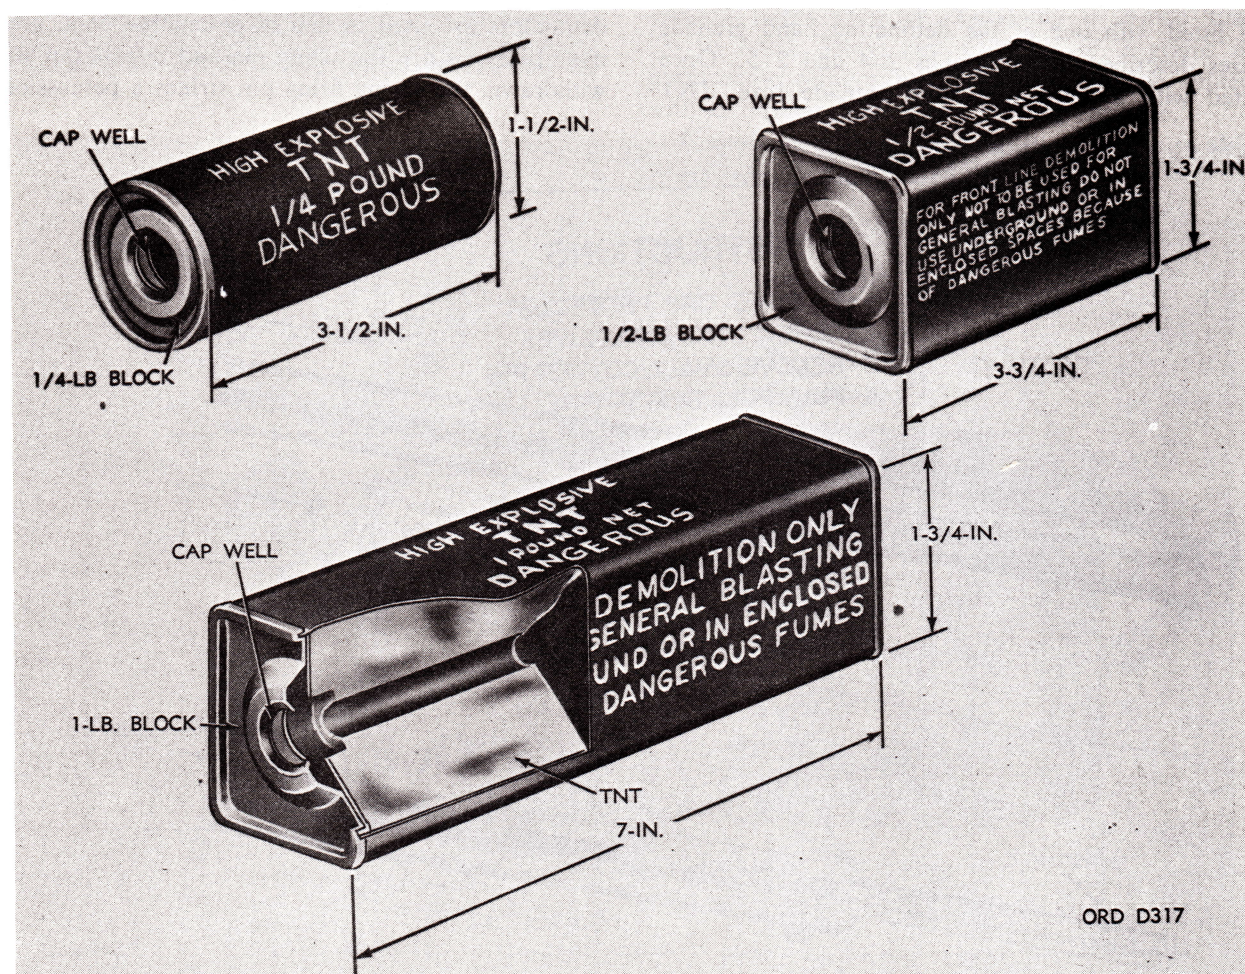

Figure 4-1. TNT demolition charges.
b. Charge, Demolition, 1/4-Pound, 1/2-Pound, and 1-Pound, TNT. TNT demolition charges (fig. 4-1) consist of 1/4-pound, 1/2-pound, or 1-pound blocks of cast TNT with cap wells (fuze wells) in each end. Any one of these sizes may be used in place of a hand grenade for blast effect. To use demolition charges in place of hand grenades, the charges may be fitted with one of the detonating hand grenade fuzes described in paragraphs 2-4 and 2-5. Once fitted with a detonating hand grenade fuze, TNT